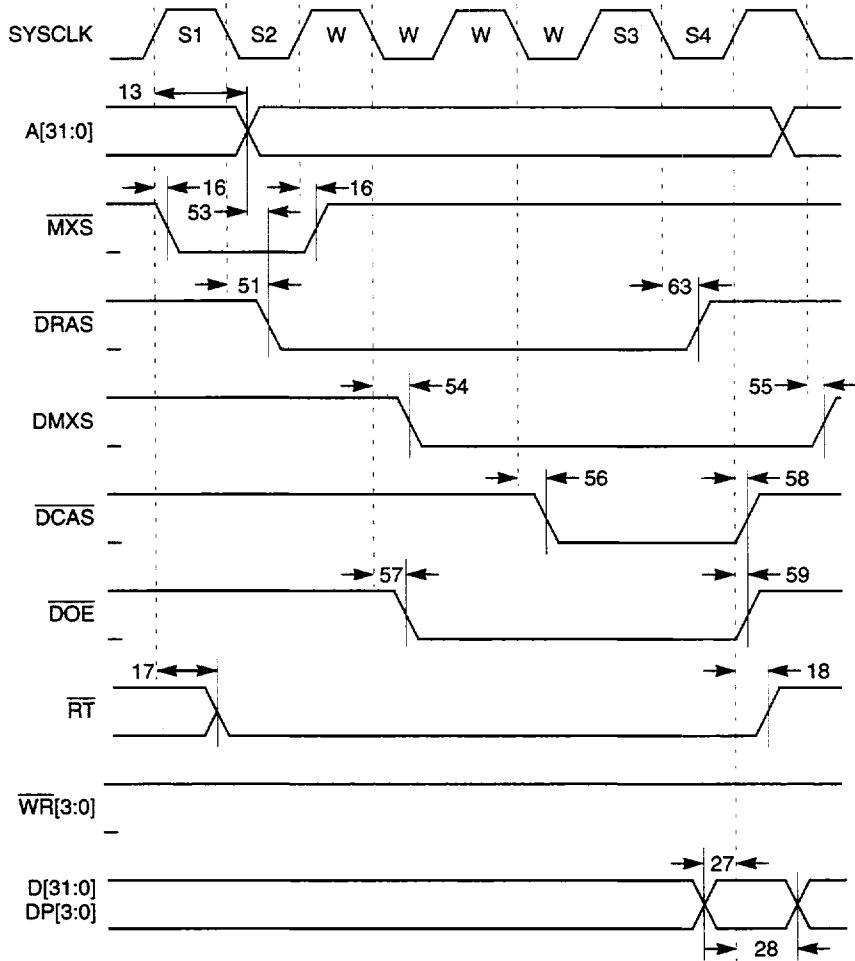

Figure 10
- ◆ DRAM Write Timing (Figure 10)